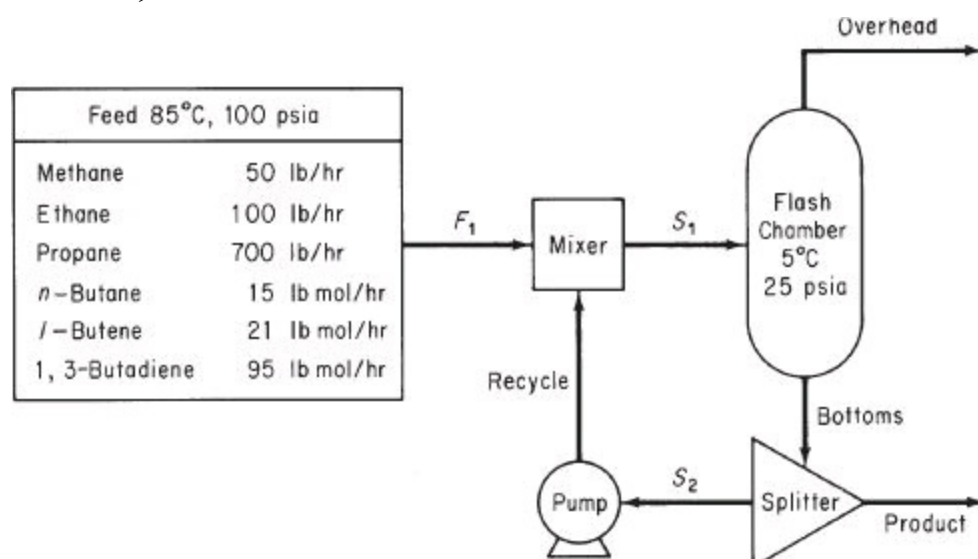

Figure P16.13
16.13. A gas feed mixture at 85°C and 100 psia having the composition shown in Figure P16.13 is flashed to separate the majority of the light from the heavy components. The flash chamber operates at 5°C and 25 psia. To improve the separation process, it has been suggested to introduce a recycle as shown in Figure P16.13. Will a significant improvement be made by adding a 25% recycle of the bottoms? 50%? With the aid of a computer process simulator, determine the molar flow rates of the streams for each of the three cases.